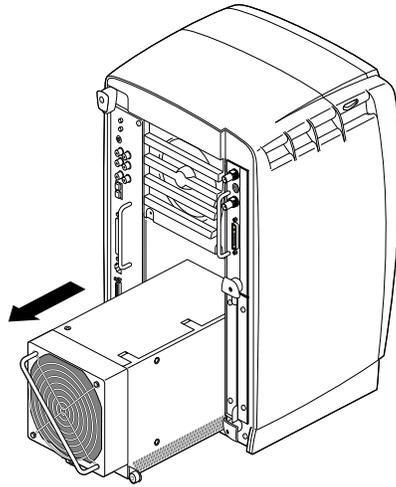

Figure 3-4 Removing the Power Supply
3. Grasp the handle and pull the power supply from the chassis, as shown in Figure 3-4.